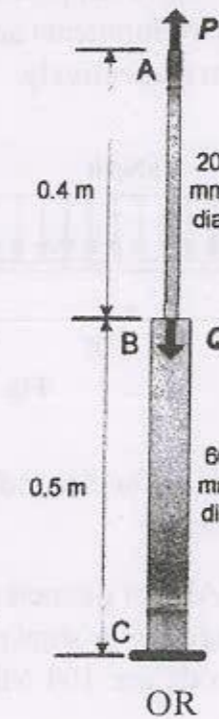

Fig. 1
- a) Construct the influence line diagrams for force in members U_1U_2 , L_1L_2 , L_2U_3 and U_1L_1 of the through truss shown in fig. 1
- b) The rod ABC is made of an aluminum for which $E = 70 \text{ GPa}$ as shown in Fig. 1. Knowing that $P = 6 \text{ kN}$ up at point A and $Q = 42 \text{ kN}$ down at point B , determine the deflections at point A and point B . $AB = 0.4 \text{ m}$ and 20 mm dia, $BC = 0.5 \text{ m}$ and 60 mm dia. [13]